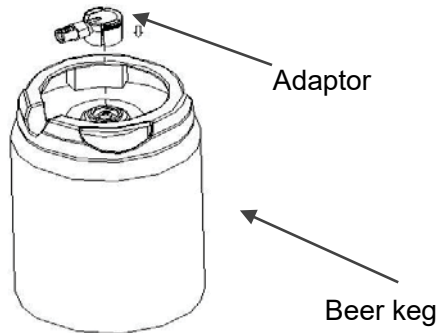

Figure 8
2. Install the new adaptor on the Beer dispenser and make sure that the hose is well connected. (Figure 8 and 9)